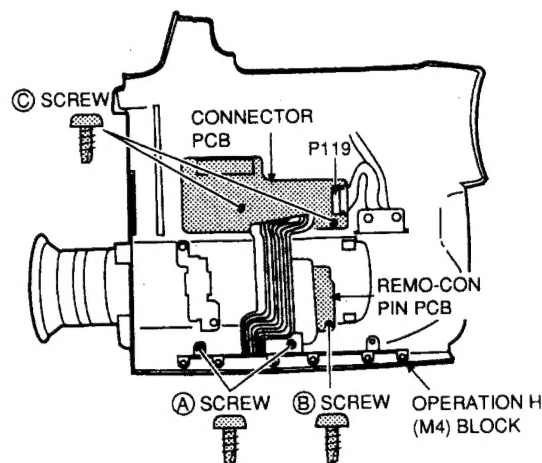
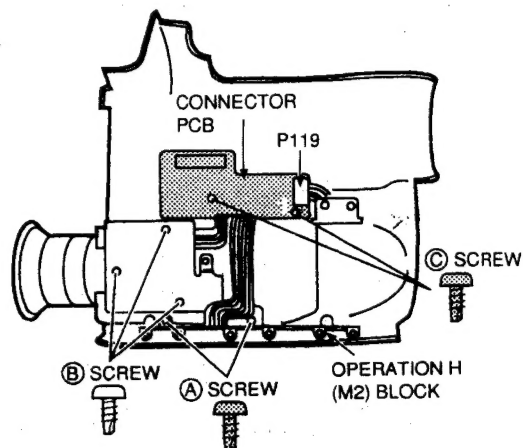
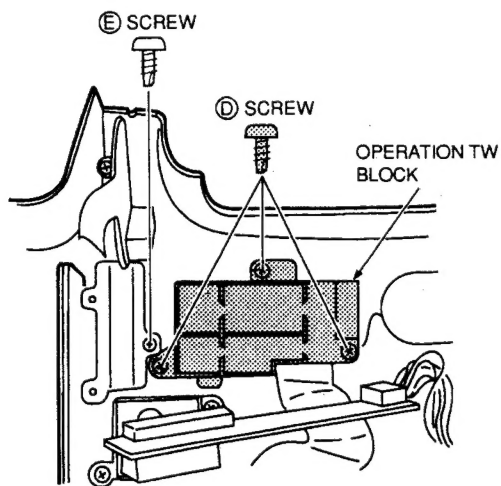

Fig.1-11 (PV-M4)
Fig.1-12 (PV-M2)
Fig.1-13
2. Remove the two (A) screws on the OPERATION H (M4) BLOCK (PV-M4) and (B) screw on the REMO-CON PIN PCB as shown in Fig.1-11.
Remove the two (A) screws and three (B) screws which retain the OPERATION H (M2) BLOCK (PV-M2) as shown in Fig.1-12.
3. Remove the two ③ screws on the CONNECTOR PCB as shown in Fig.1-11 (or Fig.1-12) then remove the three ④ screws and ⑤ screw on the OPERATION TW BLOCK as shown in Fig.1-13